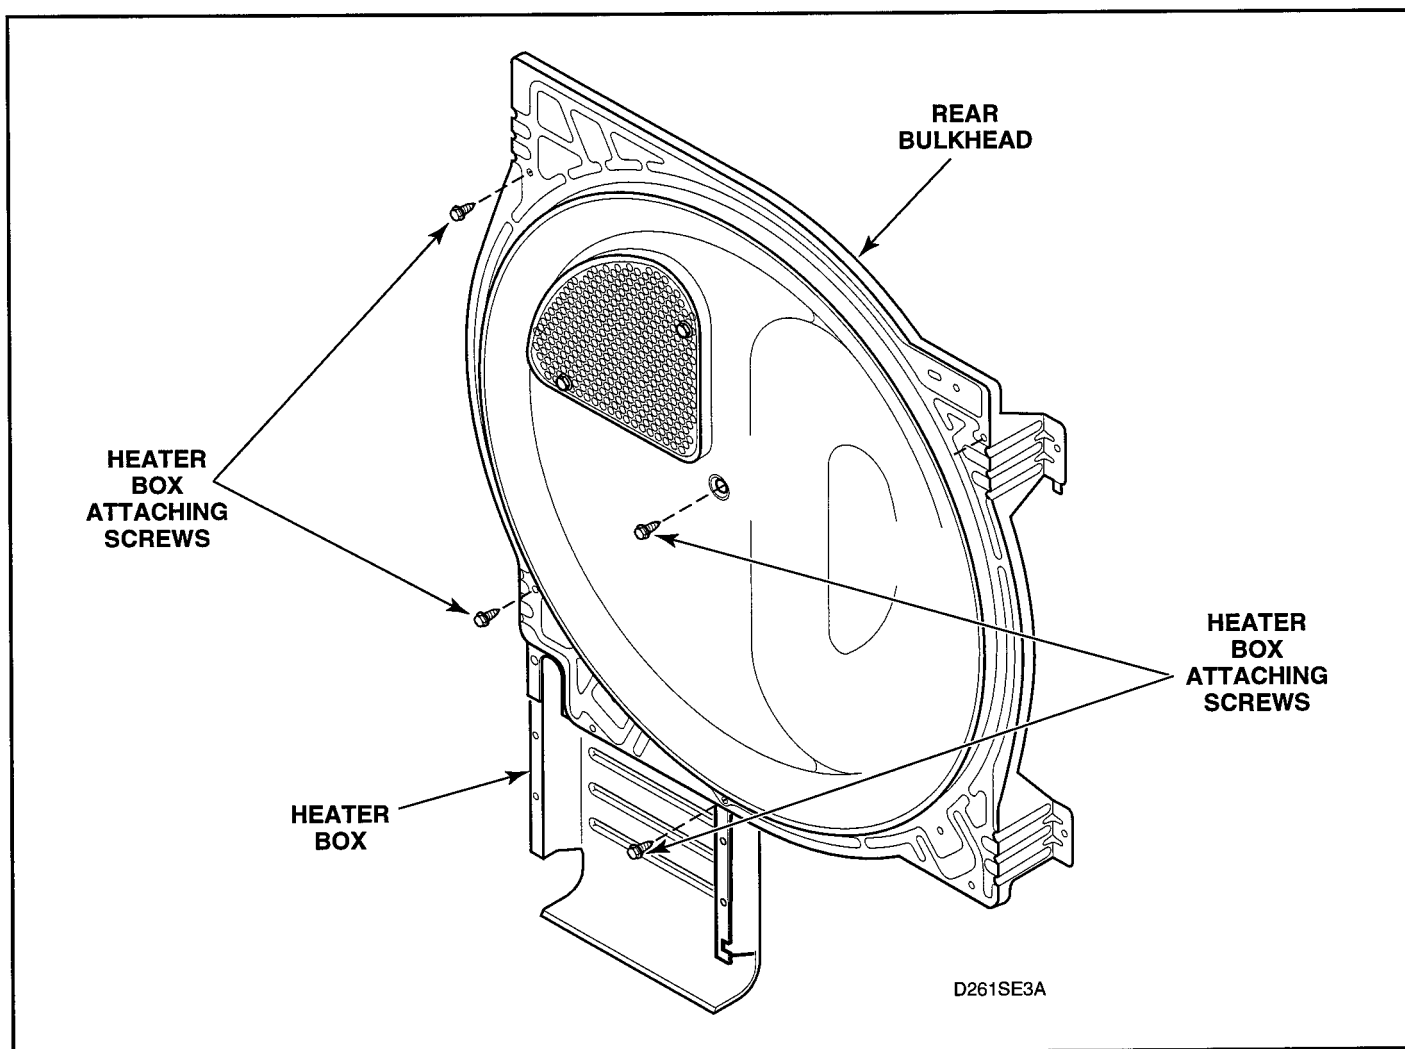

Figure 5-31
- l. To remove heater box from rear bulkhead, See figure 5-31.